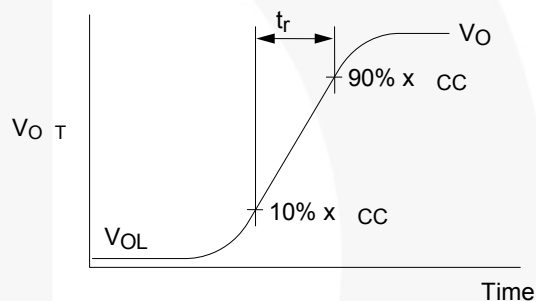

Figure 6. Active Output Rise Time
8. See Figure 6.
11. See Figure 6.